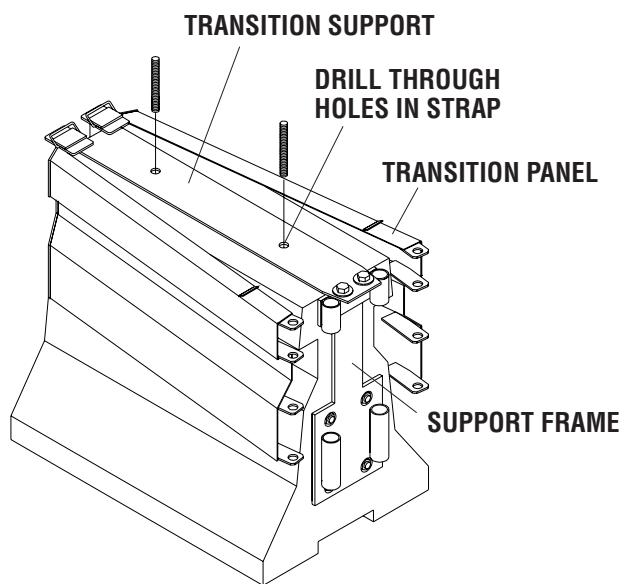

Figure 15
Step 6: Remove Backup and install MP-3 Studs in top of QMB (See Figure 15)